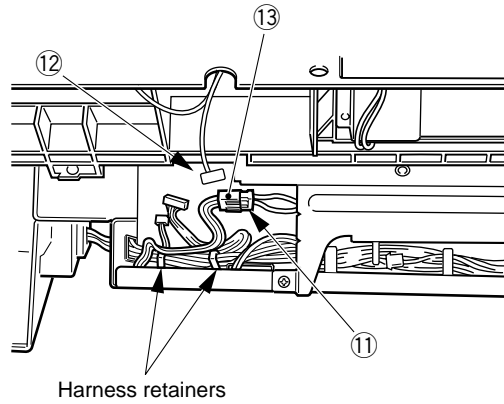

Figure 5-11
13) Disconnect the shorting connector ⑪ shown in Figure 5-11 from the 4P connector ⑬.
14) Connect the 4P connector ⑫ of the Control Card V and the 4P connector ⑬ of the copier.